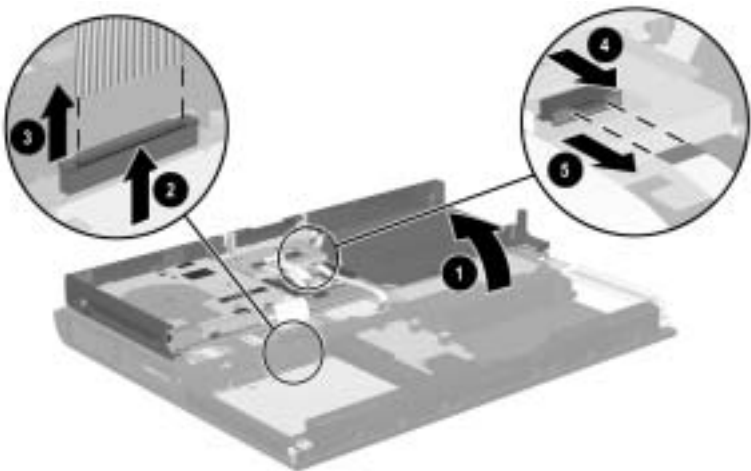

Figure 5-30. Removing the Palm Rest
8. Lift the front edge of the palm rest and swing it up and back ❶ until it rests on the top cover (Figure 5-30).
9. Release the ZIF connector to which the diskette drive cable is attached ❷ and disconnect the diskette drive cable ❸ from the system board.
10. Release the ZIF connector to which the system board-to-TouchButton board cable is attached ❹ and disconnect the cable ❺ from the TouchButton board.